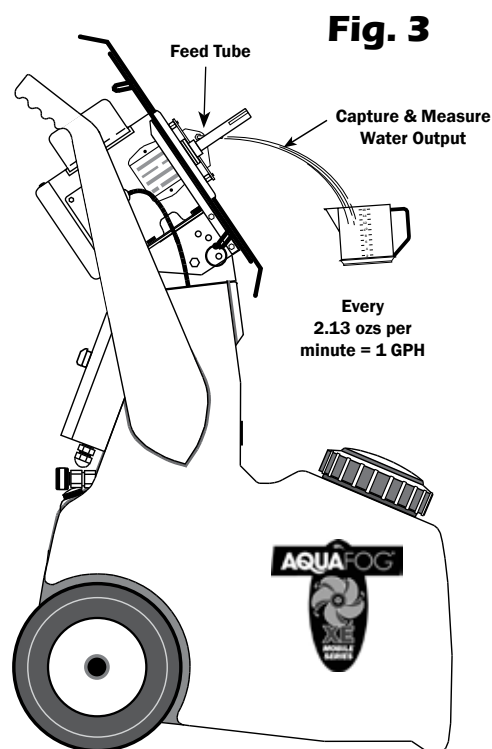

Fig. 3
- T2) Remove the Fan Housing and Blade Assembly to expose the Feed Tube (See Fig. 3). This will allow a visual of the water stream, helpful when making adjustments